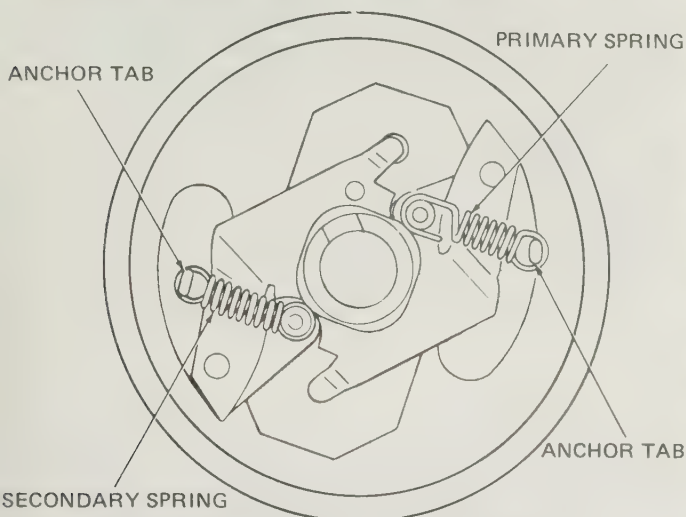

Fig. 4.12. Centrifugal advance weights and springs (Sec. 12)
- 2 Sparingly, coat the pivot pins with oil and fit the vacuum weight and new 'C' clips. Fit the primary and secondary springs (see Fig. 4.12).